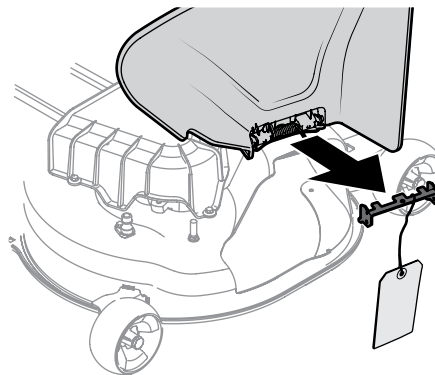

Figure 2-8
7. Holding the chute deflector fully upward, remove the shipping brace. Lower the chute deflector and discard the shipping brace. See Figure 2-8.